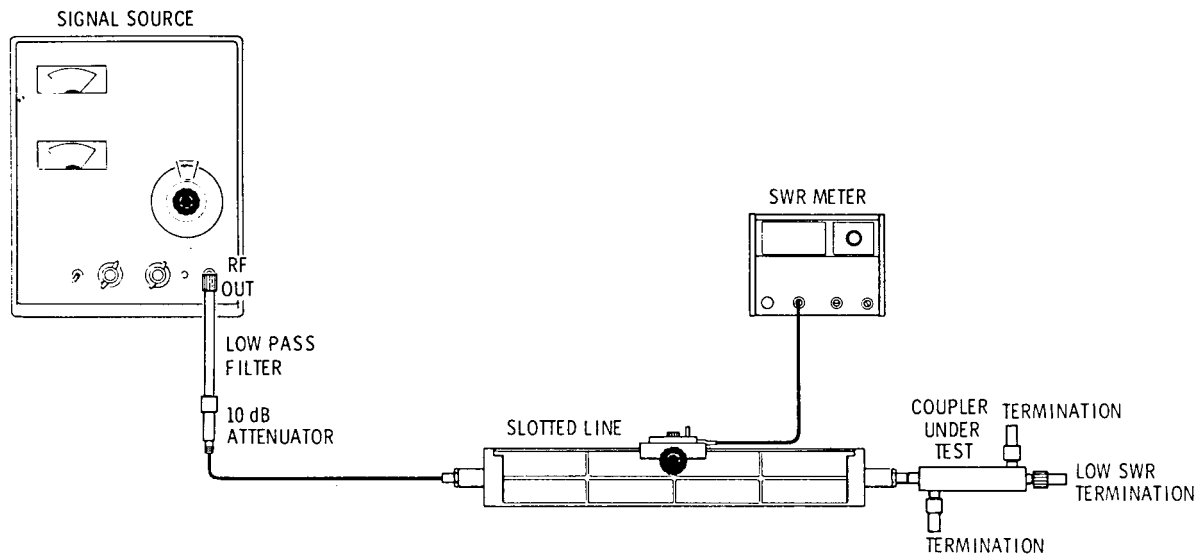

Figure 9 *Fixed-Frequency Primary-Line SWR Test Setup*
Description Refer to Figure 9 for test setup and for test equipment.
- Termination (2)
1. Connect the equipment as shown in Figure 9.